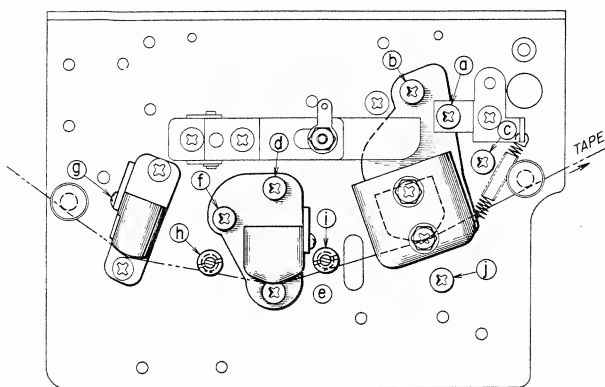

Fig. 1
1.1 Adjustment of Head Height (See Figures 1 and 2)